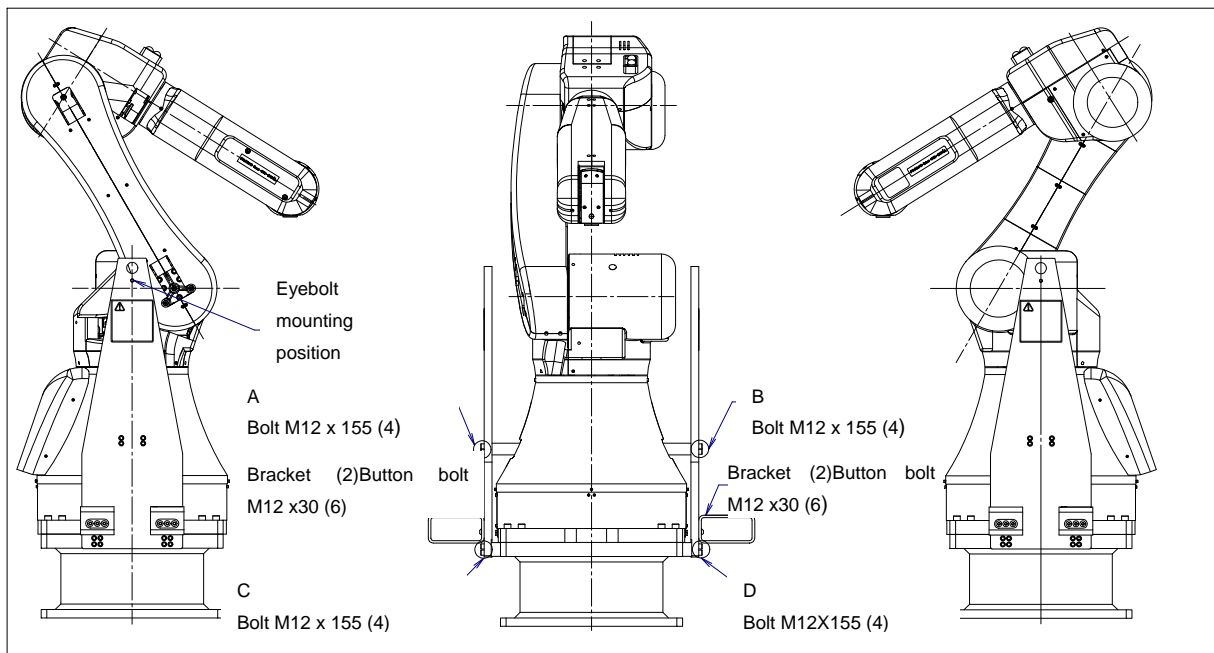

Fig. 1.2 (d) Removing the transport member
- C) Move the cover until the transport member mounting portion disappear, then tighten the bolts and fix it. (Fig. 1.2 (h))